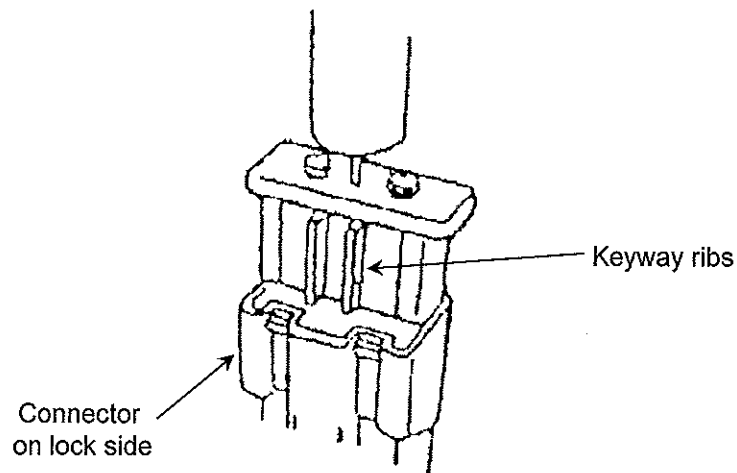

Fig. 2 Gauge insertion direction
2. Confirm that the TPA is securely locked and the operation arm is not as shown in (Fig. 2).
4. Confirm the gauge is in the proper position. Bend the wire toward the lock side to wrench the terminal tips downward (See Fig. 2)